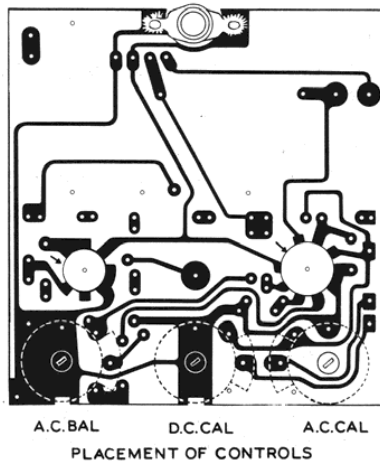

Figure 7
- () Mount the three special type 10 K Ω controls from the screened side of the board so the mounting lugs and terminals protrude through to the foil side. See Pictorial 2 and Figure 7. Press the controls firmly against the board and solder the mounting lugs and terminals to the foil pattern. One mounting lug of the A. C. CAL. control cannot be soldered to the foil, so bend the lugs slightly inward in order to hold the control securely.